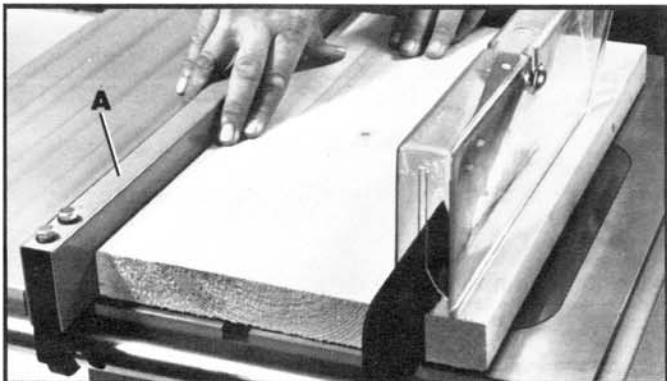

Fig. 33
Ripping is the operation of making a lengthwise cut through a board, as shown in Fig. 33, and the rip fence (A) is used to position and guide the work. One edge of the work rides against the rip fence while the flat side of the board rests on the table. Since the work is pushed along the fence, it must have a straight edge and make solid contact with the table. The saw guard must always be used. The guard has anti-kickback fingers to prevent kickback and a splitter to prevent the saw kerf from closing and binding the blade.
Start the motor and advance the work, holding it down and against the fence. Never stand in the line of the saw cut when ripping. Hold the work with both hands and push it along the fence and into the saw blade as shown in Fig. 33. The work can then be fed through the saw blade with one or two hands. After the work is beyond the saw blade and anti-kickback fingers the hand is removed from the work. When this is done the work will either stay on the table, tilt